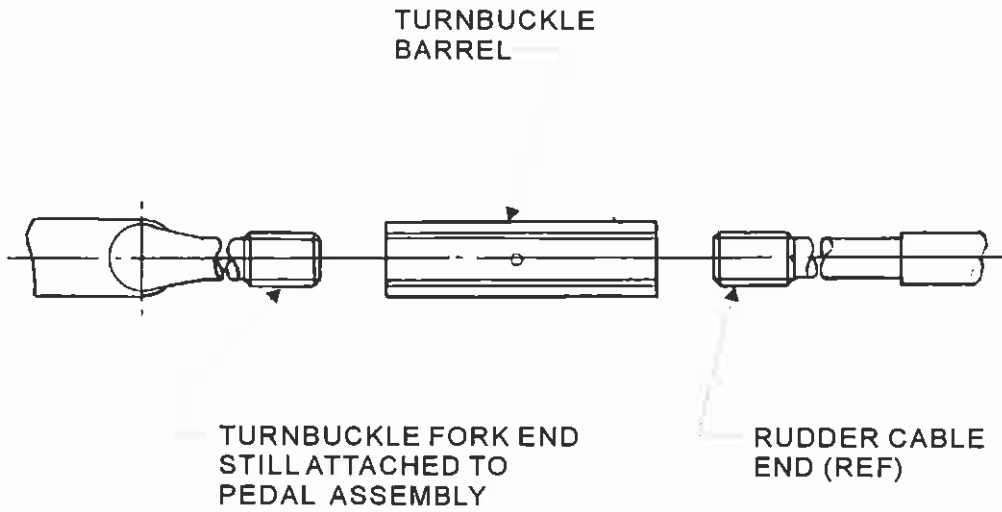

FIG 2
- 3.2.5 Disconnect turnbuckle barrel from both turnbuckle ends, see Fig. 2.